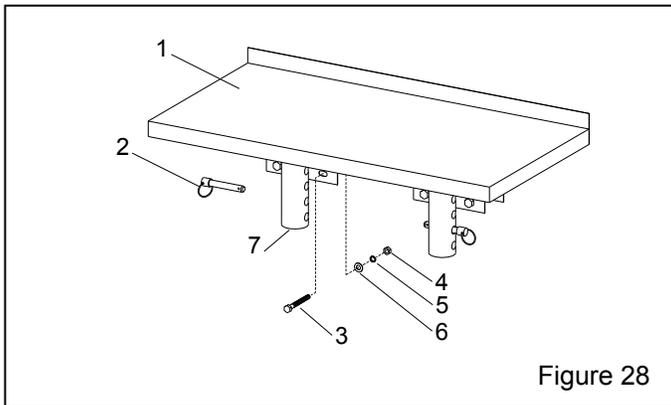

Figure 28
**Foot-Shelf Assembly, Figure 28